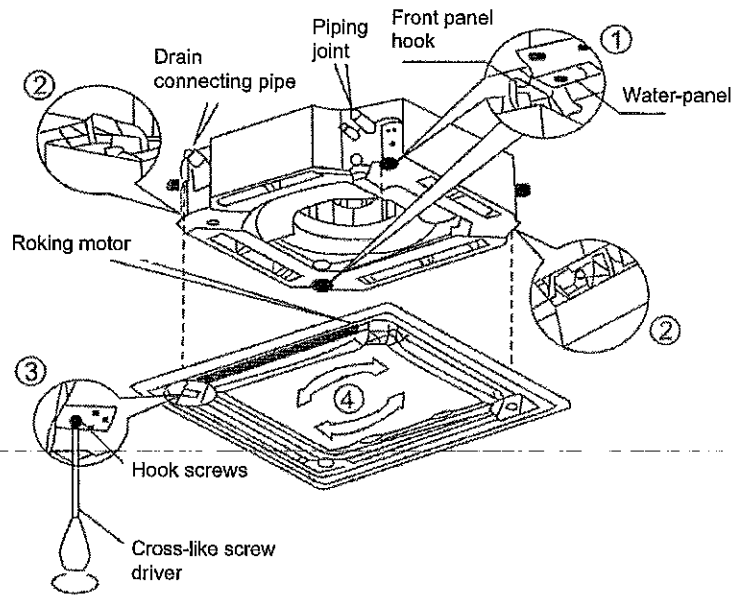

Figure 13
- Align the rocking motor on front panel with the joint of the piping on main body (see Figure 13);
- During installation, firstly hang the front panel hooks close to the side of rocking motor and the opposite side onto the corresponding hooks of the water pan (as shown in Figure 13 ①), and then hang the other two front panel hooks onto the corresponding suspension brackets of main body (as shown in Figure 13 ②);
- Adjust the 4 screws of front panel hook to ensure that the front panel is level and evenly raised close to ceiling board (as shown in Figure 13 ③);
- Slightly adjust the front panel as per the direction indicated by the arrow in (Figure 13 ④) in order that the center of front panel coincides with the center of opening in ceiling board; confirm that the hooks at four corners have already been hung properly;